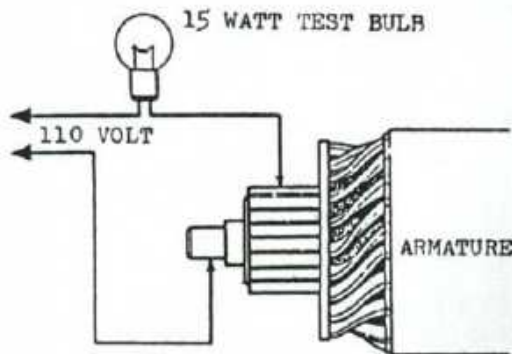

Fig. 75—When checking armature winding insulation, each commutator segment must be checked separately.
**87. ARMATURE INSULATION TEST.** Armature insulation can be tested by using a 110 volt, 15 watt, AC current test light connected as shown in Fig. 75. Touch each commutator segment in turn with test light lead. If test light comes on at any segment, windings are shorted and must be repaired or renewed.
**93. ARMATURE INSULATION TEST.** Armature insulation can be checked by using a 110 volt, 15 watt test light connected as shown in Fig. 75. Touch each commutator segment in turn with test light lead. If test light comes on at any segment, windings are shorted and armature must be repaired or renewed.